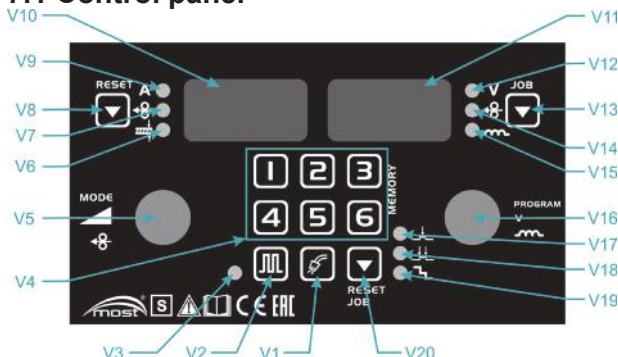

Figure 7: Control panel
2. Press the **V1** button on the main panel (according to Figure 7). If the button is held down for less than 3 seconds, the gas valve switches off when the button is released. If the button is held down for more than 3 seconds, the gas valve switches off after approx. 20 seconds or after pressing any button.